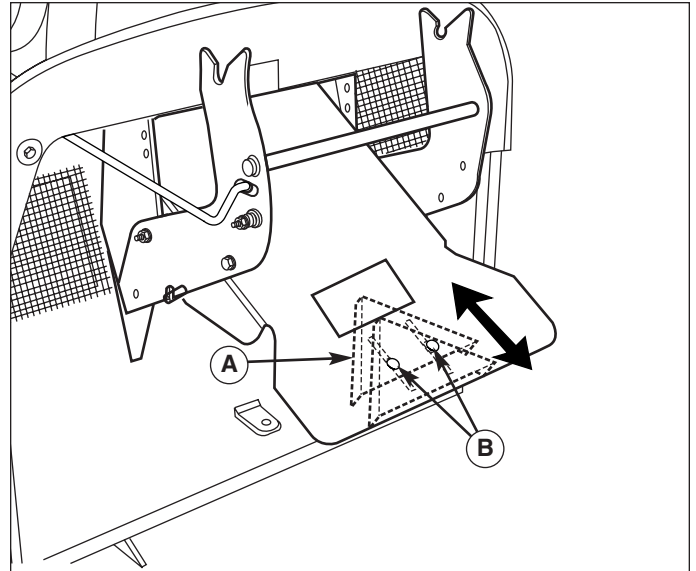

Figure 6. Adjusting the Deflector
1. Loosen hardware (B, Figure 6)
2. Slide defuser (A) up or down.
3. Secure hardware (B).